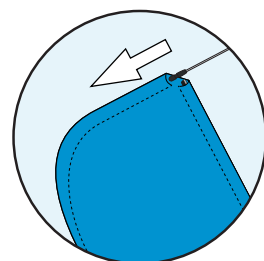

Fig 7.
7. Join the two pieces of carbon fibre rod together. Feed the carbon fibre rod into the top of the sleeve on the curved edge, black tip end first. (Fig 7)